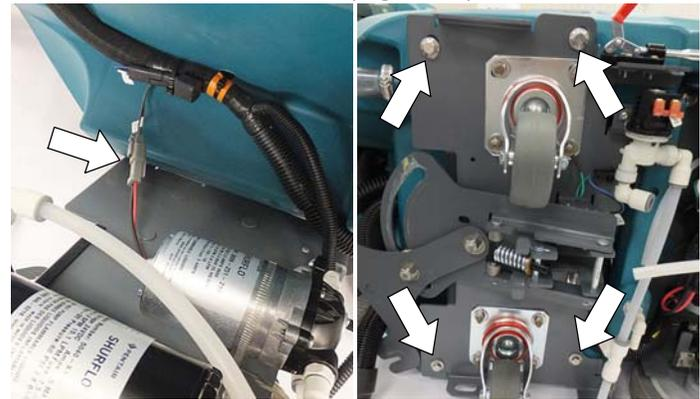

Fig. 10
8. Reconnect wire connector to e-H2O pump and refasten machine frame (Figure 10).